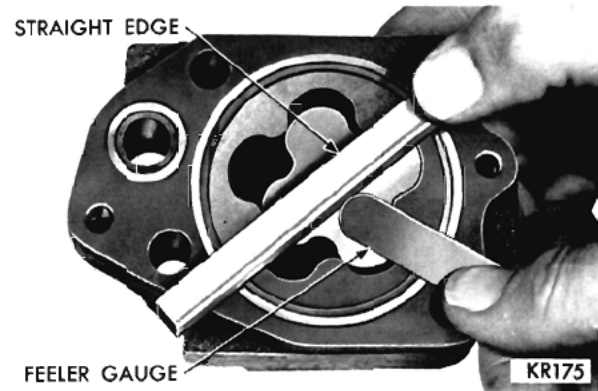

Fig. 128—Measuring Clearance Over Rotors
(6) Place a straightedge across the pump body (between bolt holes). If feeler gauge of more than .004 inch (Fig. 128) can be inserted between the rotors and a straightedge, install a new pump body and/or rotors.
(7) Inspect the oil pump relief valve plunger for scoring and for free operation in its bore. Small